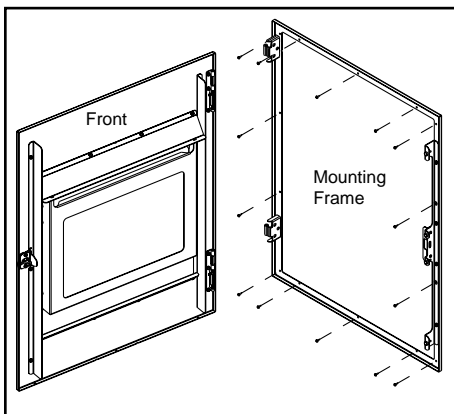

Figure 48.2
1. Use a Phillips Head screwdriver and attach the mounting frame to the face of the fireplace with 5 screws on the top and bottom and 4 on each side. **Figure 48.2.**